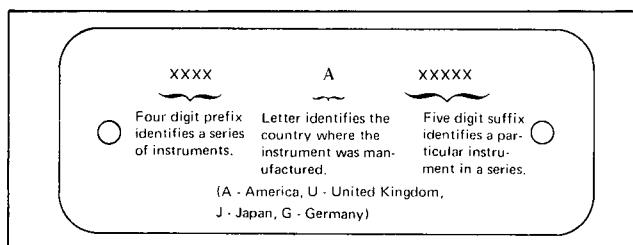

Figure 1-3. Instrument Serial Number.
1.21. A three-section serial number (XXXXAXXXX) is used to identify the Model 3437A. Figure 1-3 illustrates the meaning of the three parts of the number.